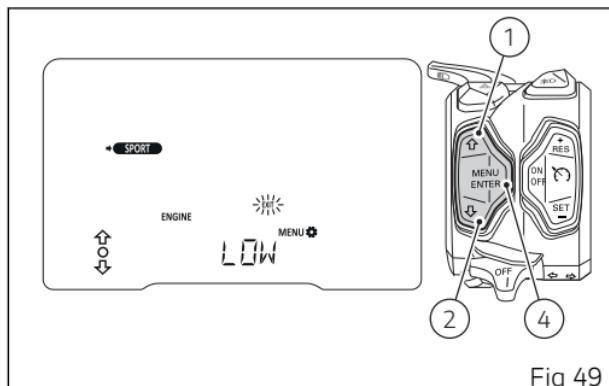

Fig 49
The instrument panel displays the new set level and "EXIT" flashing (Fig 49). Now press button (4) to go back to previous display mode.